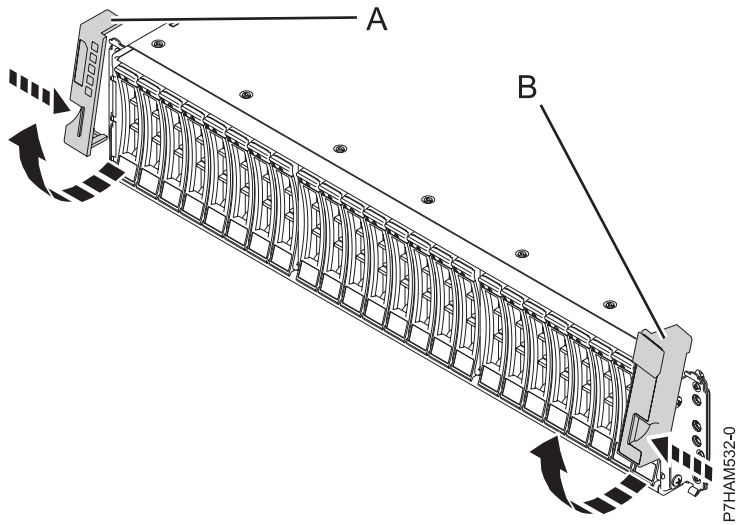

Figure 7. Removing the side covers
2. Remove the left side cover (A) and right cover (B) to show the mounting brackets.
3. Pinch the release to rotate the cover up and off from the chassis flange as shown in Figure 7 on page 8.